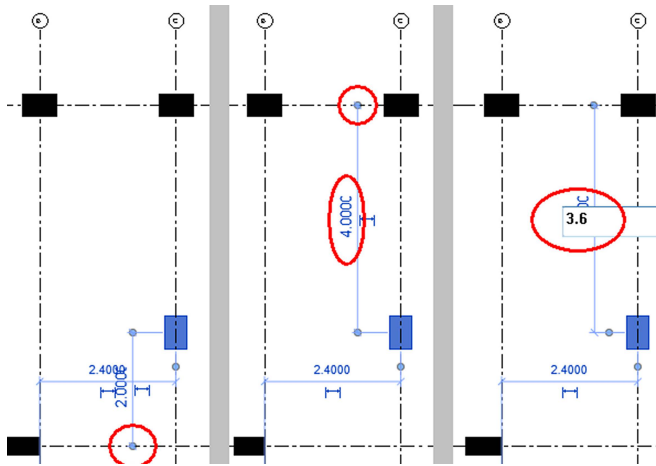

Fig. 2.5 – Selection box for Columns
6. If the temporary dimension is not showing distance from grid 8, drag the witness line control (blue dot) to grid 8. The dimension will show distance of column from grid 8 (Fig 2.5).